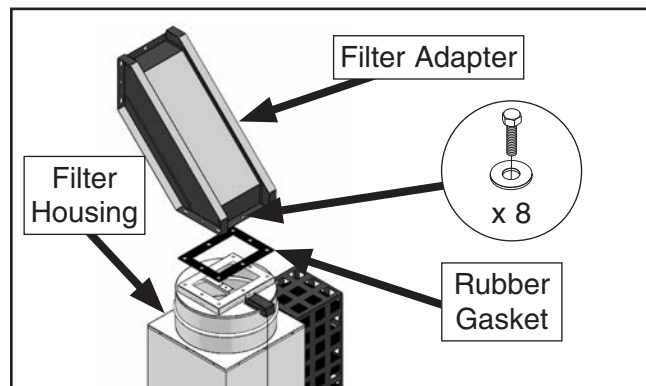

Figure 16. Attaching filter adapter to filter housing.
19. Attach rubber gasket to top of HEPA filter housing (see **Figure 16**), then secure filter adapter to housing using (8) $\frac{5}{16}$ "-18 x 1" hex bolts, and (8) $\frac{5}{16}$ " flat washers.